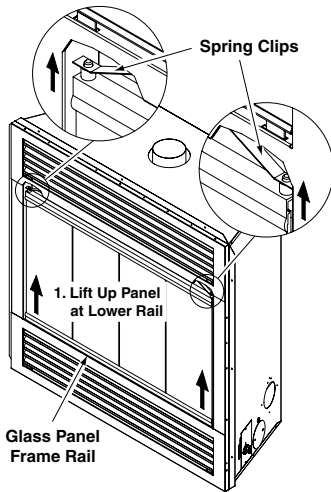

Figure 2 - Removing/Replacing Glass Door
1. Place a screw driver or your finger tips into the gap between the lower glass panel rail and the bottom face frame and lift glass door assembly until the door pins clear the locating holes in the bottom face frame (see **Figure 2**, page 2).